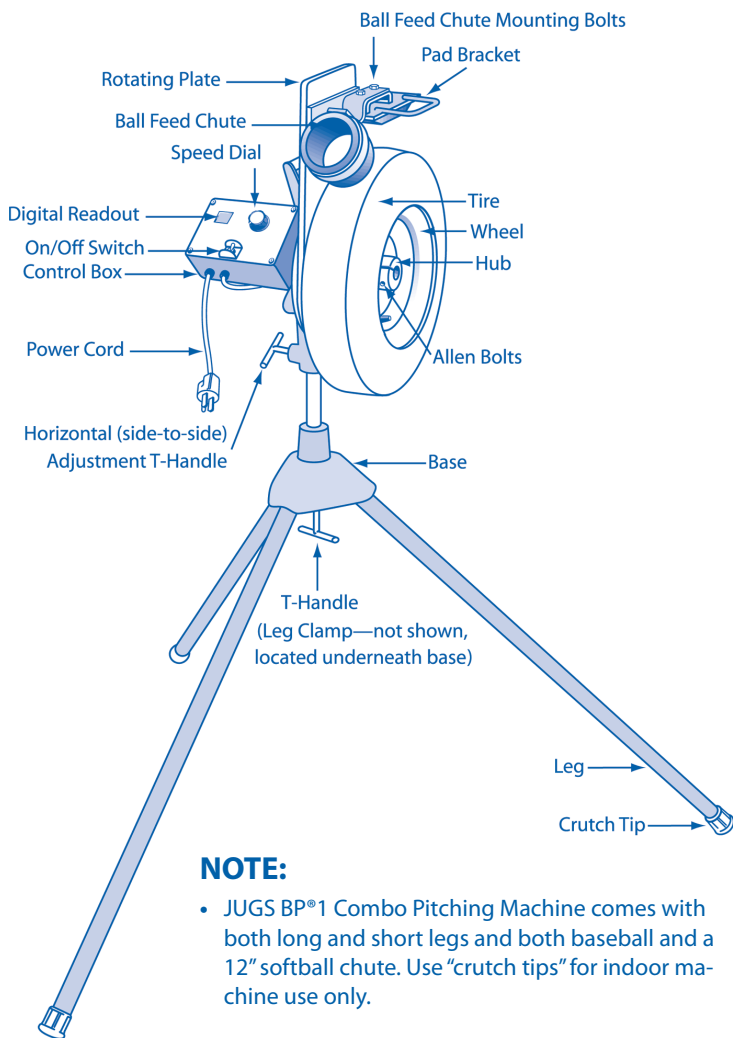

Figure 3
- Make sure you have all the parts (See Figures 3 and 4). If any parts are missing, do not operate the machine until the missing parts are replaced. Failure to do so could result in possible serious personal injury.